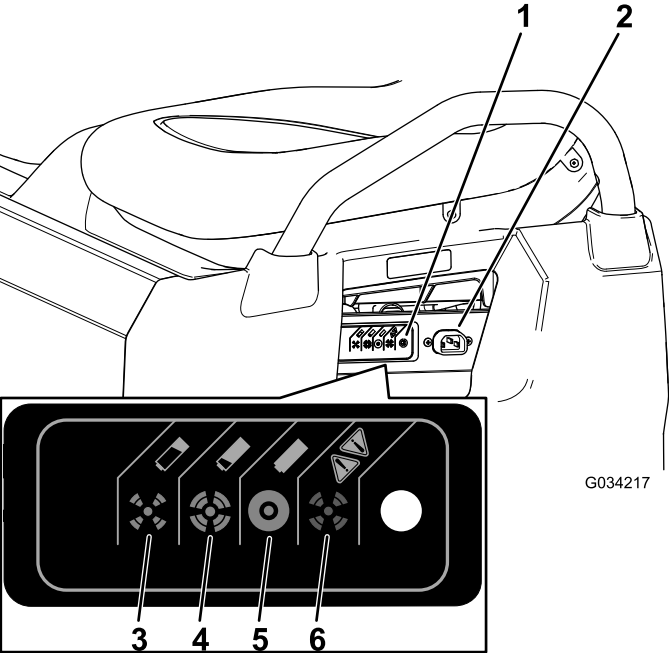

Figure 36
3. Connect a **16 gauge (or larger diameter), 2.5 m (8.2 ft) or shorter charger cord** to the charging receptacle on the machine (Figure 36).
Refer to the following table and Figure 36 for information on the meanings of the varying colors of the charger-status light.